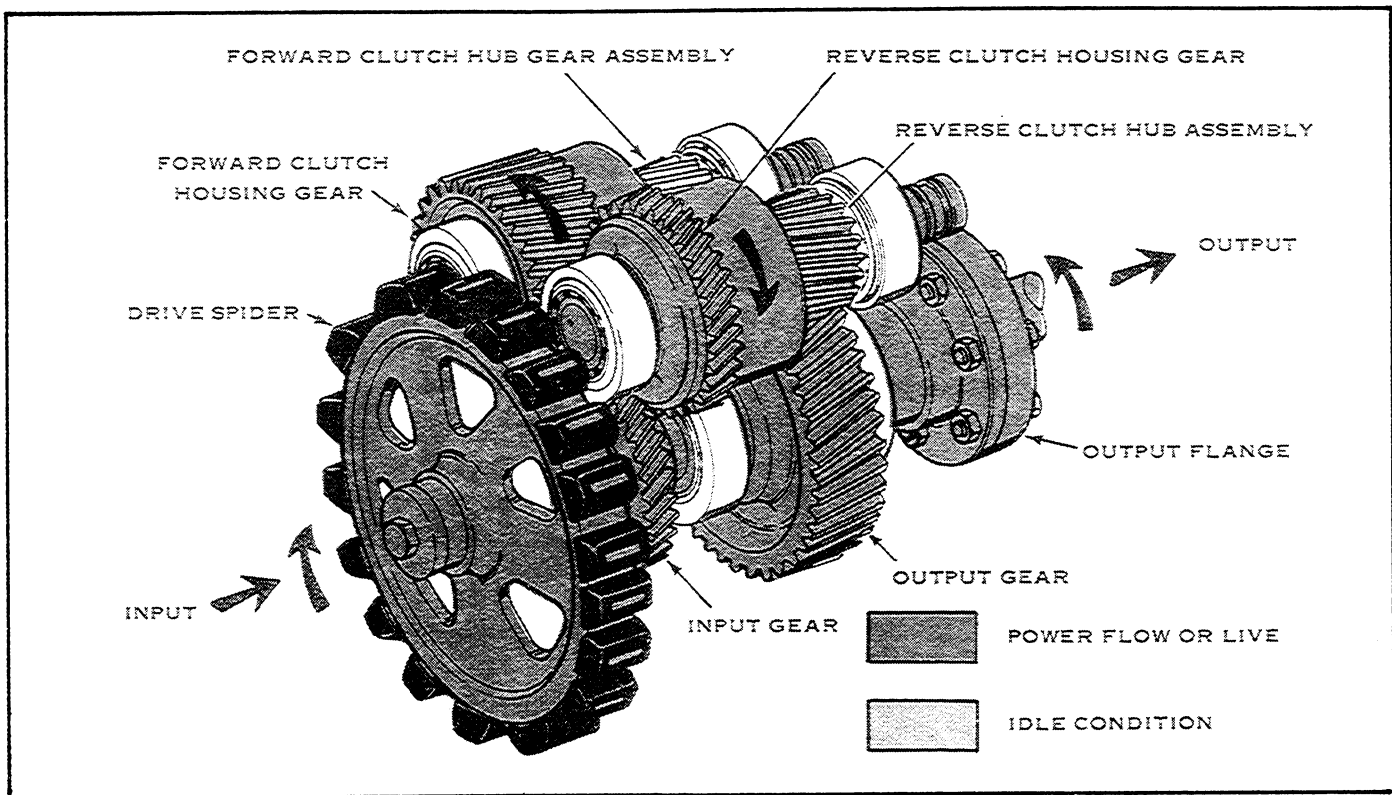

Figure 3-3. Model MG-506-1 Marine Transmission Power Flow — Reverse — Schematic View.
3. **Reverse.** See Figure 3-3. When in reverse, all the marine transmission parts that rotated in neutral are still turning. However, when reverse clutch is selected, the reverse clutch steel and faced plates are clamped together by the clutch piston and back plate. The internal teeth of the steel clutch plates are meshed with the smaller diameter external teeth of the clutch hub pinion assembly, and turn the pinion gear at engine speed and in engine direction. The